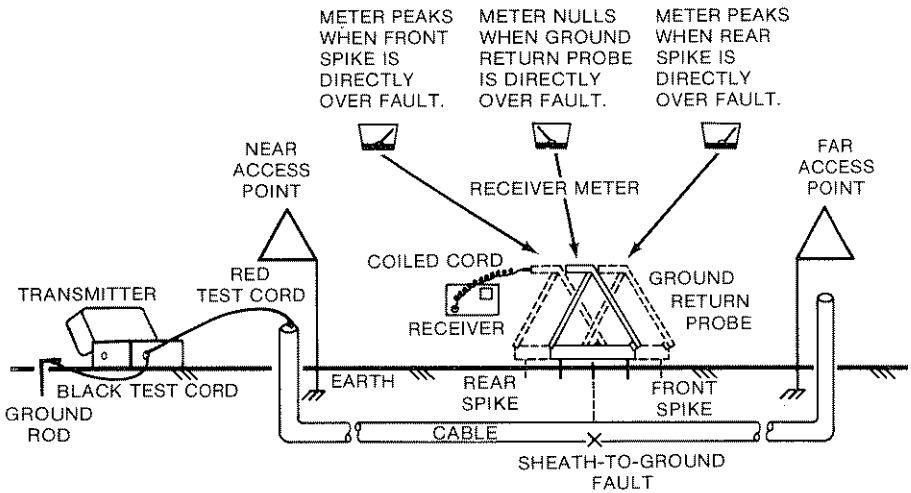

Figure 5-1.
3. Connect the black test cord clip to the ground rod (see Figure 5-1).
4. Plug the jack end of the red/black test cord into the RED/BLACK TEST CORD jack receptacle on the transmitter (see Figure 5-1).